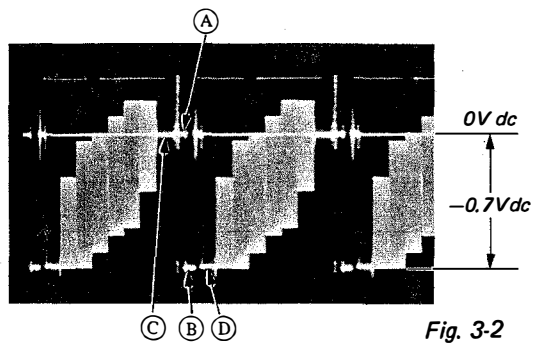

Fig. 3-2
7. Adjust RV2 (SUB BRT) of HB board so that (A) (black level) is 0V DC as shown in Fig. 3-2.
8. Adjust RV1 (SUB CONT) of HB board so that (B) (100% white level) is -0.7V DC as shown in Fig. 3-2.